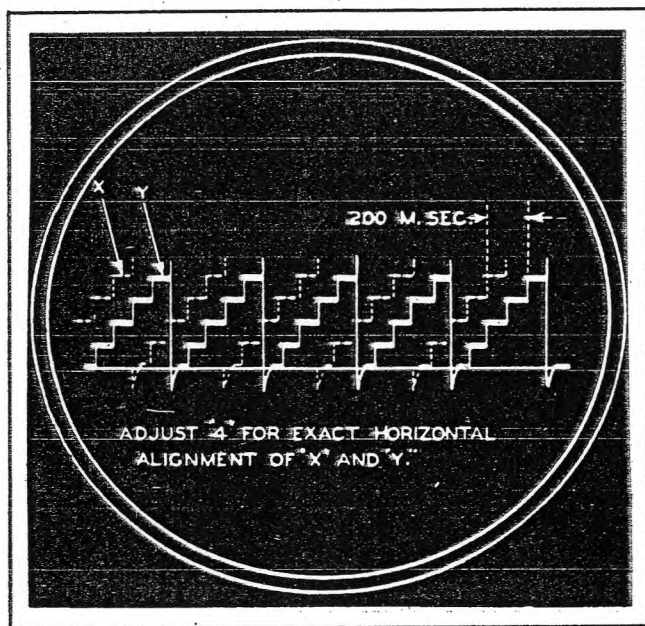

Figure 6-5. Indicator *ID-6B/APN-4—Display Pattern Sweep Speed Switch Position "8"
c. DISPLAY PATTERN.—A new display has been substituted for the dot pattern ("SPEED SWEEP SW." position "8") used in modification III indicators. (See fig. 6-5.) The sweep is now triggered by the output pulse from the fourth counter, and the charge steps of the third counter storage capacitor appear on the screen of the cathode-ray tube. This pattern is used to pad station selector padders and check L-R and station selector circuit operation. It is also useful for checking third and fourth counter operation.